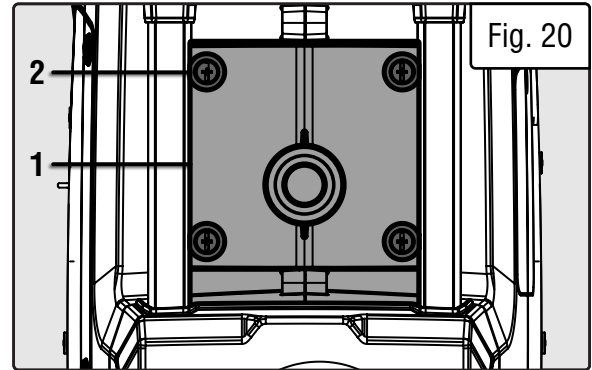

Fig. 20
1. Open the spark plug access cover (Fig. 20 - 1) by removing the four screws (Fig. 20 - 2).